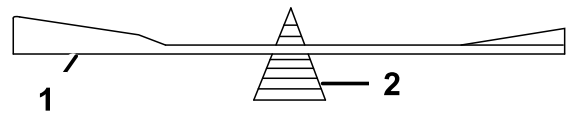

Figure 78
2. Check the balance of the blade by putting it on a blade balancer (Figure 78).
Note: If the blade is not balanced, file some metal off the end of the sail area only (Figure 78).